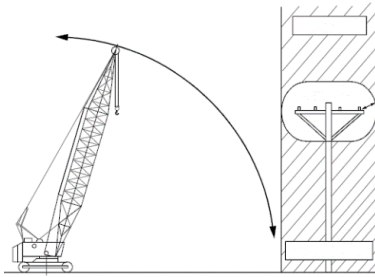

Figure 1
- Figure 1: Crane is at the Minimum Safe Distance as Long as Only the Boom Moves